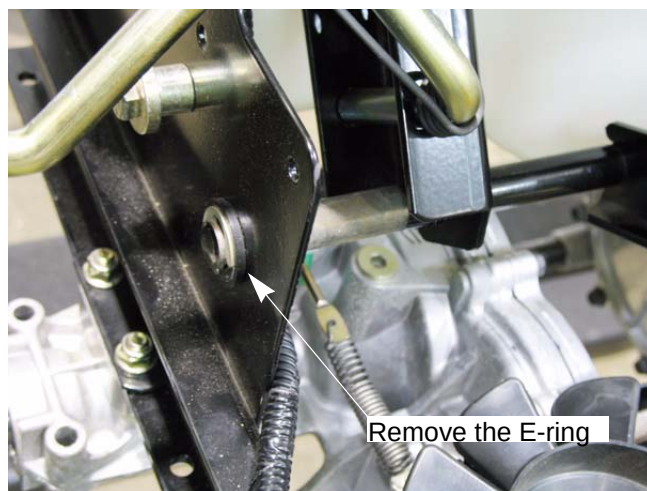

Figure 8.19
5. Remove the E-clips that retain the bushings. See Figure 8.19.